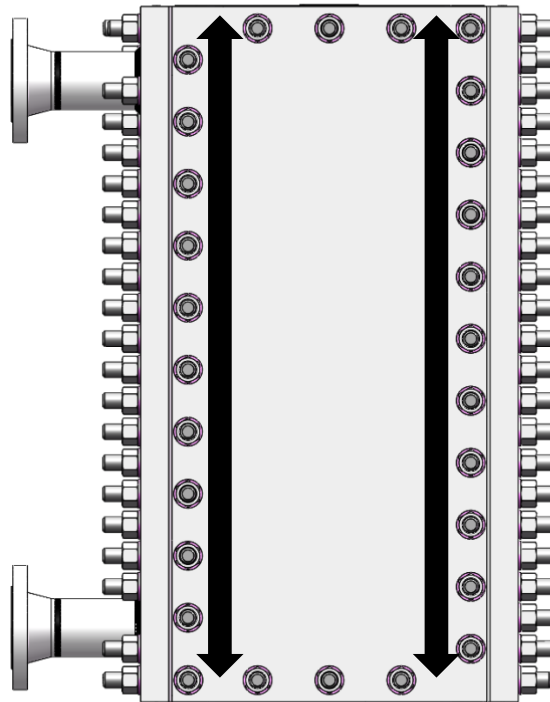

Figure 21
- Pre-tighten all nuts of girders with impact wrench from down to up or up to down (figure 21).